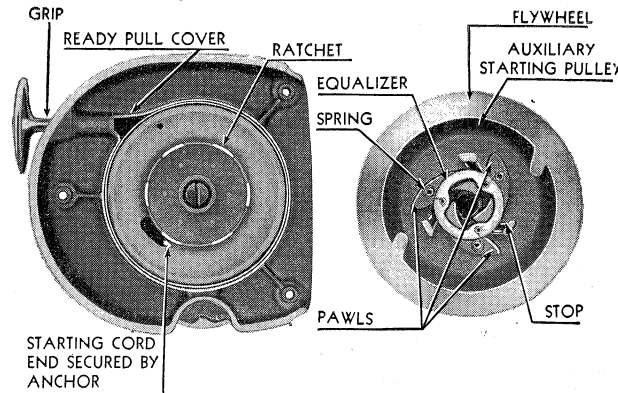

Fig. 23
This simple device is built into model TN(L) for the express purpose of eliminating the necessity of manually wrapping the cord around the starting pulley for cranking. It consists of a ratchet plate about which are coiled a return spring and the starting cord and a pawl arrangement mounted on top of the magneto flywheel. Fig. 23.